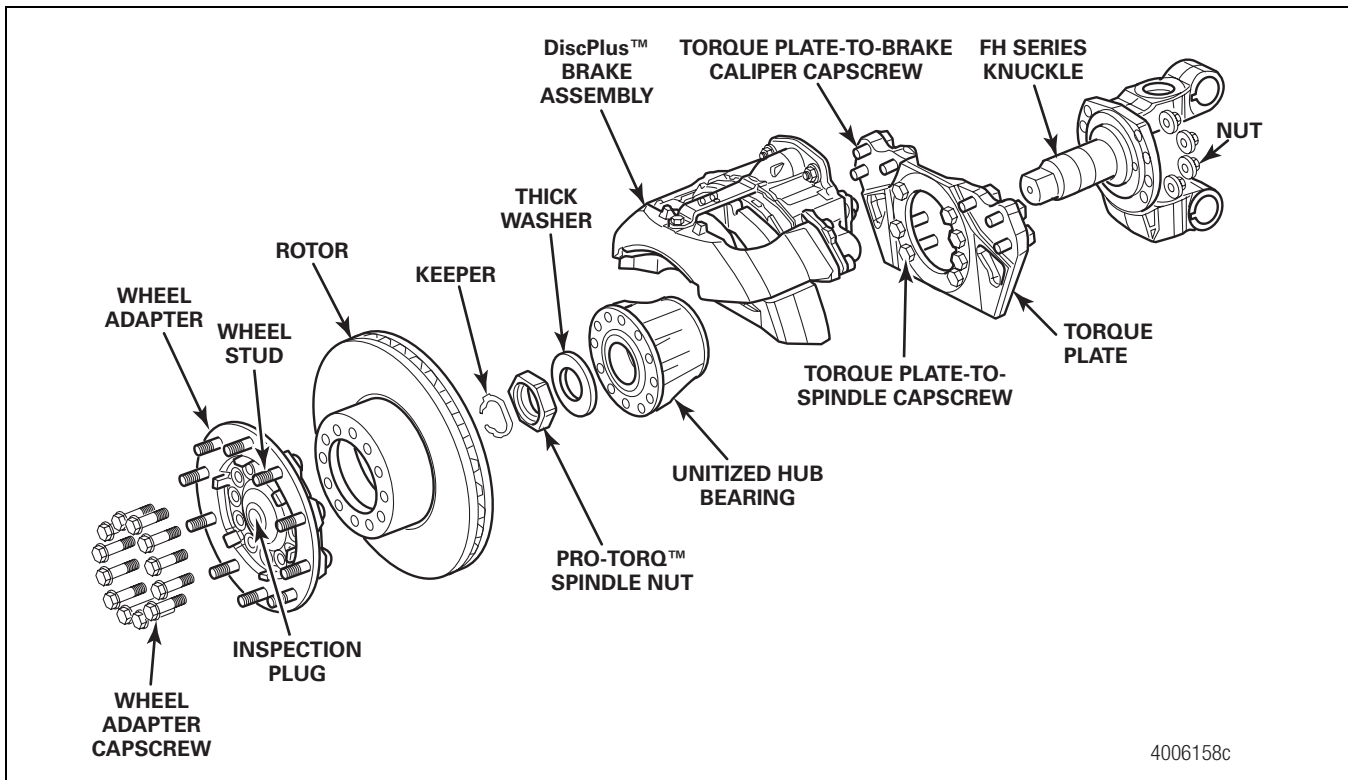

Figure 13.24
4. Remove the wheel adapter and rotor. Inspect the rotor for cracks and signs of wear. Replace the rotor if necessary. Figure 13.24.